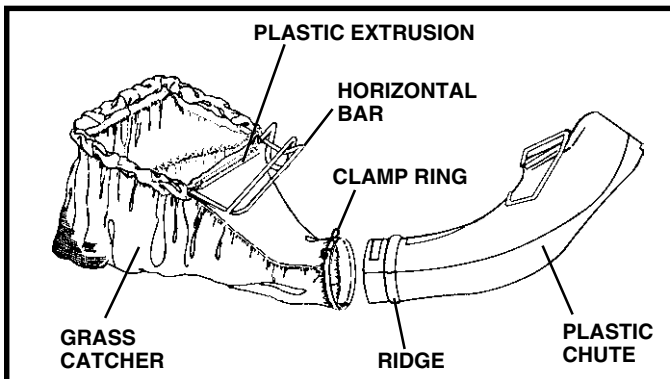

FIG. 5
- Place the plastic extrusion, located on the grass catcher, to the first horizontal bar of the grass catcher frame (See Fig. 5).
- Attach grass catcher to the plastic chute by squeezing the clamp ring located at the end of the grass catcher (See Fig. 5).
- Slide the grass catcher onto the plastic chute making sure catcher fits over the ridge on the plastic chute (See Fig. 5).